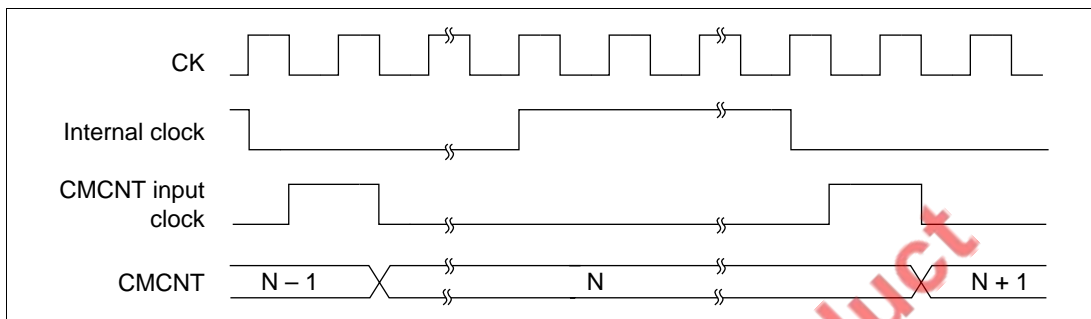

Figure 10.3 Count Timing
One of four clocks ($\phi/8$, $\phi/32$, $\phi/128$, $\phi/512$) obtained by dividing the system clock (CK) can be selected by the CKS1 and CKS0 bits of the CMCSR. Figure 10.3 shows the timing.